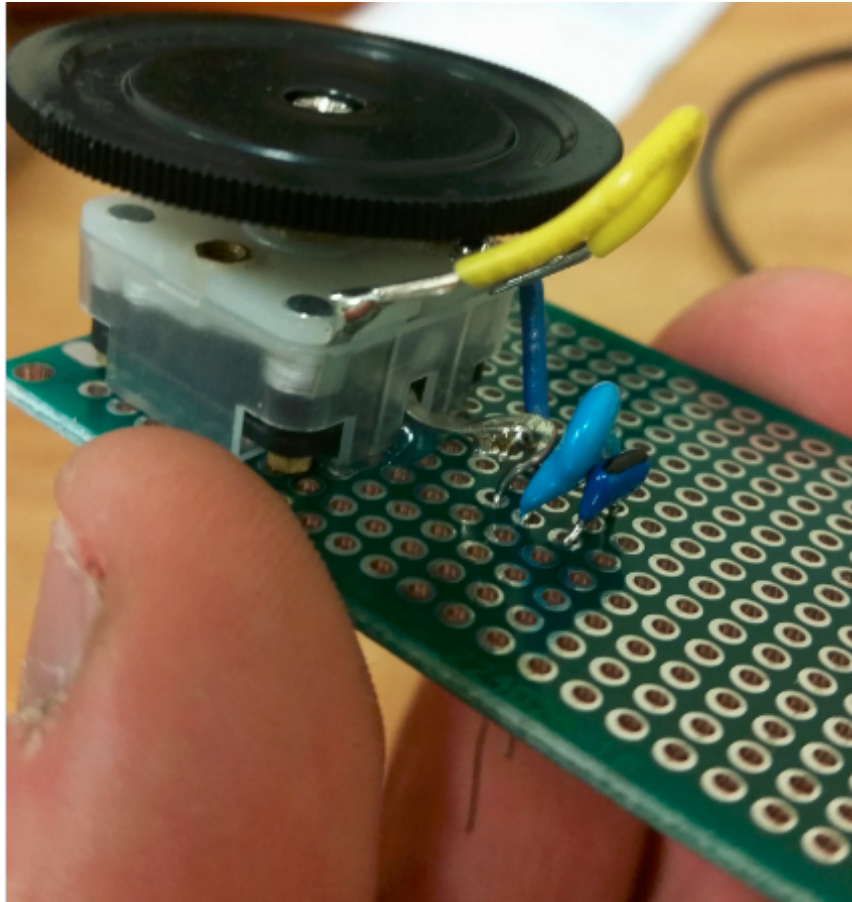

Figure 3: Capacitor installation arrangement on protoboard
4. Place Tuning capacitor body on top of one corner of protoboard with leads facing towards center of board. Stick leads through protoboard holes with 1 hole separating the two leads. Place one 100pF and one 470 pF capacitor in line with the tuning cap leads. After completing this step, the board should look like shown in Fig. 3: